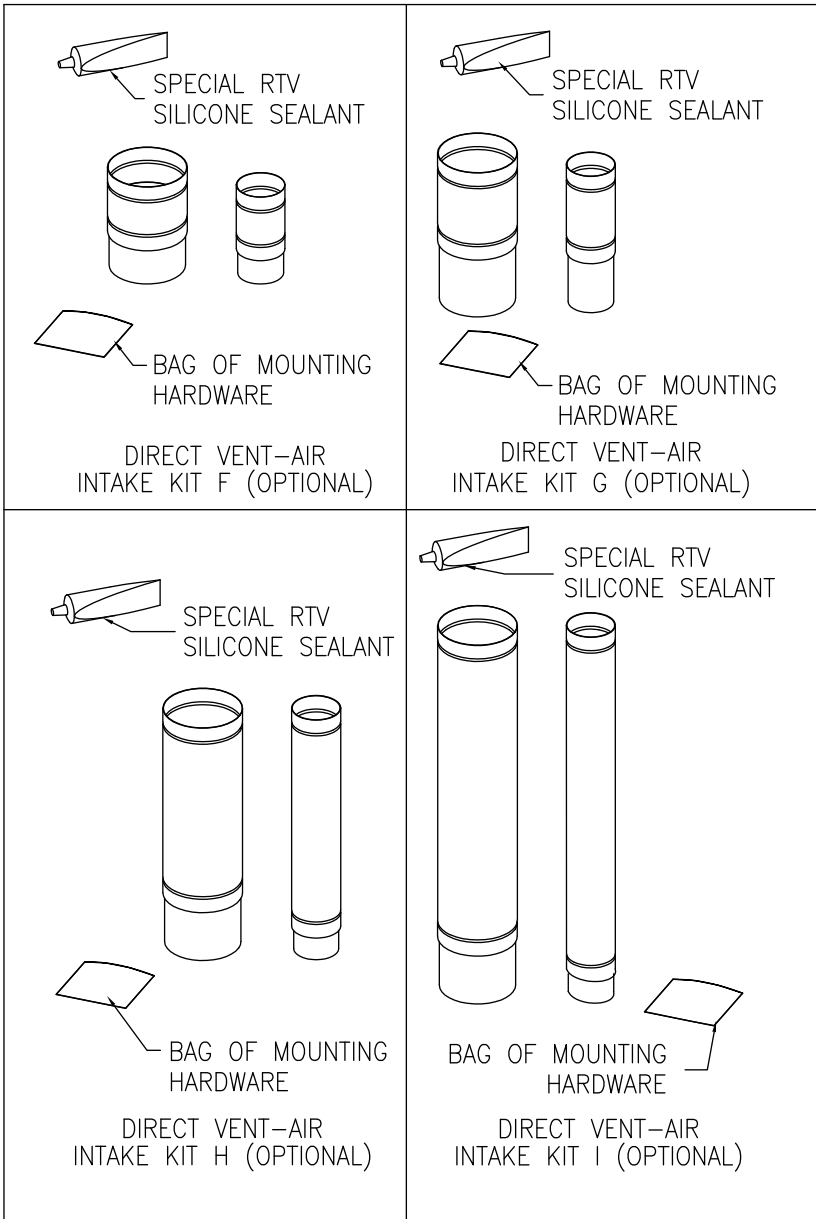

**Figure 12**
12. Mark the mounting screw hole locations for the backing plate. Rotate the backing plate in order to gain access to the markings. With a 3/16 (4.5 mm) inch diameter drill bit (not supplied), drill holes for the supplied wall anchors. Install the wall anchors and secure the backing plate to the wall with four (4) #10 x 1 inch screws (supplied) (See Figure 12). Note: Certain construction of walls may require the use of a different type of anchoring means than supplied.